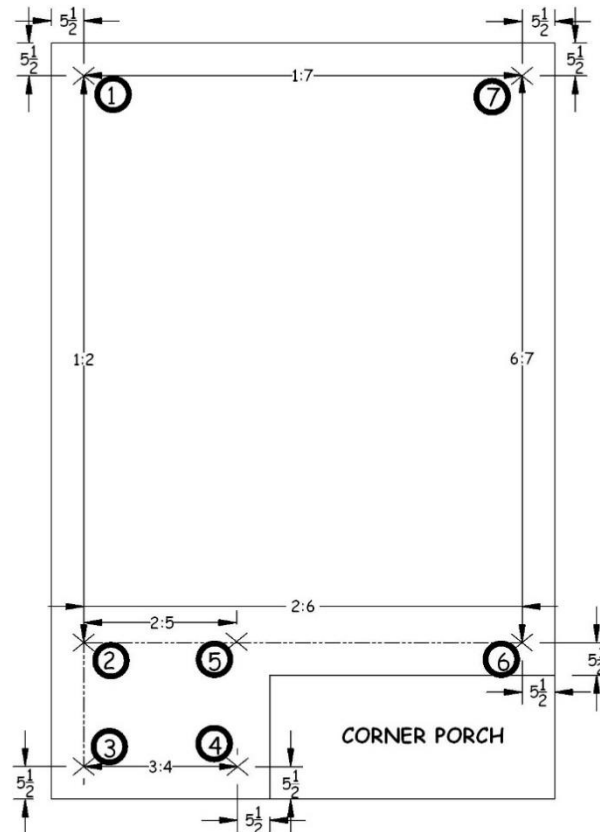

Figure 3-3. Wall Layout with Corner Porch.
1. **Create a Rectangle** on the main deck (see Figure 3-3).